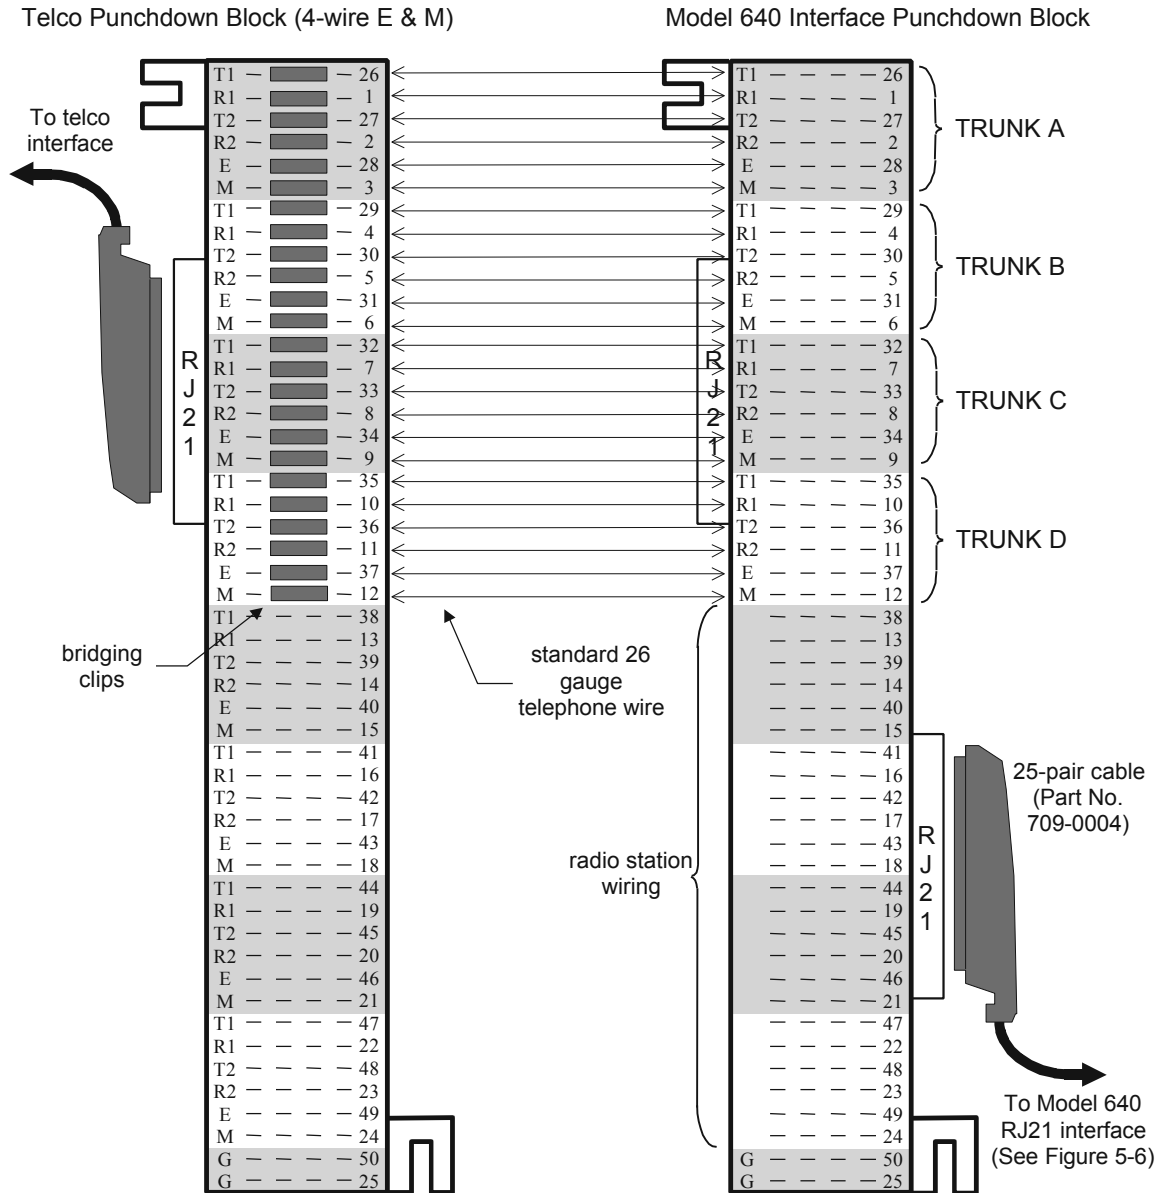

Figure 23. E&M 4-Wire Telco Interface
Figure 23 illustrates the hardware connections between a common telco 66-type punchdown block and the Zetron punchdown block. The block provides eight trunks, although the Model 640 only uses a maximum of four trunks. Notice that the telco line type in the figure is 4-wire E&M.
- ❑ 2. Connect the leads for each Model 640 trunk as shown in Figure 23, using standard 26 AWG wire-wrap wire. Wiring configuration varies by telephone line type. The figure above shows the wiring configuration for an E&M 4-wire telco punchdown block.